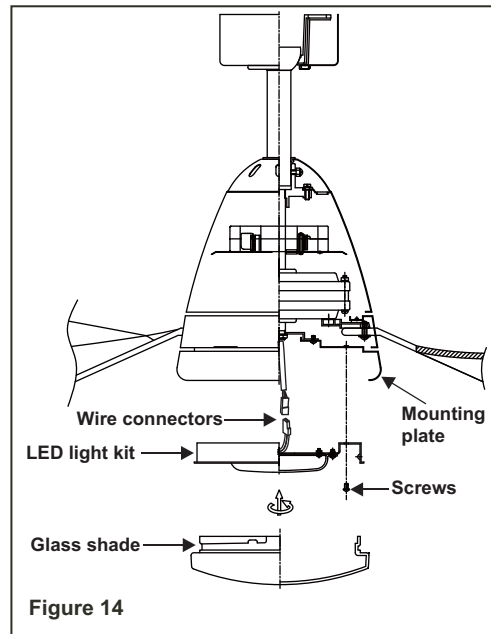

Figure 14
Step 4. While holding the LED light kit under the fan motor assembly, make the 2-pin wire connections: (Fig. 14)
the narrow section of the key holes. Secure by tightening the two light kit mounting screws previously loosened and the one previously removed. (Fig. 14)